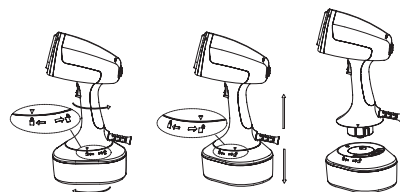

Figure 1
2. Hold the water tank with one hand while turning the steamer handle counterclockwise with other hand, until the arrow on the handle reaches the unlock symbol (🔓) on the water tank. Lift the handle off the water tank. Set the Steamer aside (Figure 1).